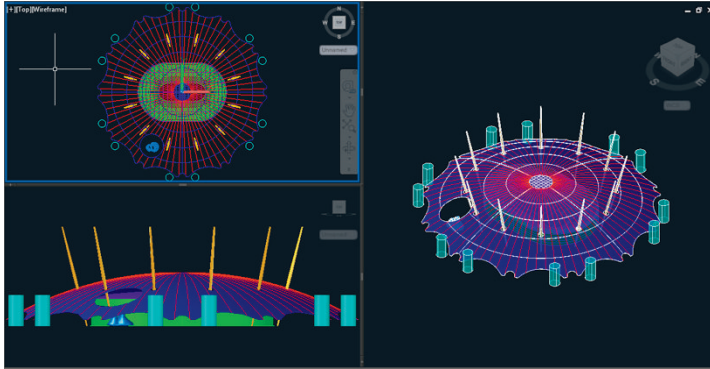

FIGURE 16.9 Three viewports, each displaying a different view and visual style
2. Click anywhere inside the lower-left viewport showing the front view to activate it. Open the in-canvas Visual Style Controls menu in this viewport and select `Shaded`. Click anywhere inside the viewport showing the top view to activate it. Open the in-canvas Visual Style Controls menu in this viewport and select `Wireframe`. Figure 16.9 shows the result.